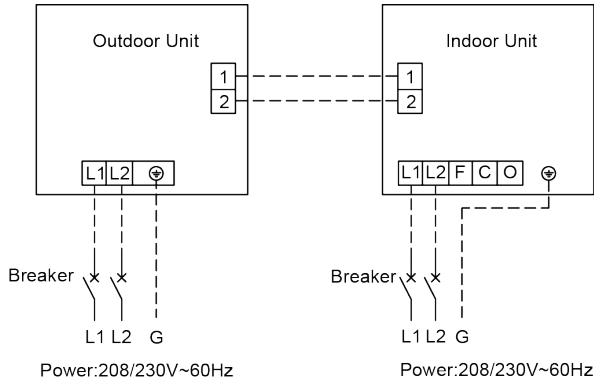

Fig. 4.40
- ④. The high-voltage and low-voltage lines should be fixed separately and securely, with internal big clamps for the former and small clamps for the latter.
- ⑤. Tighten the indoor/outdoor connection cord and power cord respectively on the terminal boards with screws. Faulty connection may cause a fire.
- ⑥. If the indoor unit connection cord (to the outdoor unit) and power supply are wired incorrectly, the air conditioner may be damaged.
- ⑦. Connect the indoor unit connection cord properly based on the corresponding marks as shown in Fig. 4.40.
- ⑧. Ground both the indoor and outdoor units by attaching a ground wire.
- ⑨. Unit shall be grounded in compliance with the applicable local and national codes.